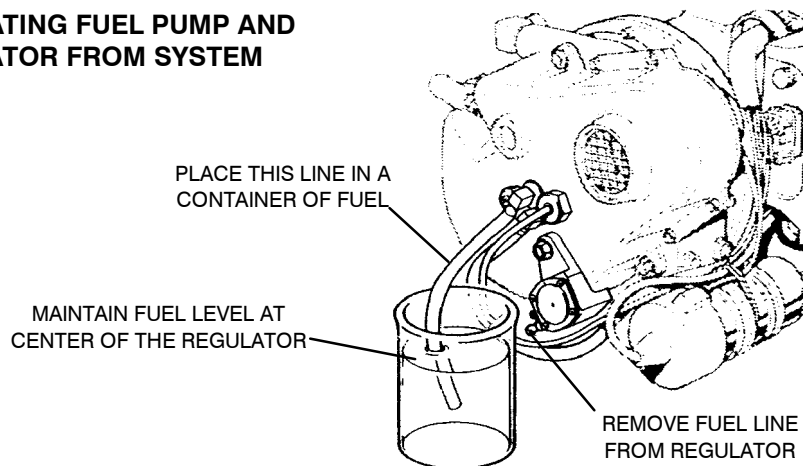

Figure 7.17-42
- a.) Split the fuel system by drawing fuel from a remote source. Disconnect the fuel line at the outlet of the fuel regulator. Put this end into a small container of fuel that is about the same level as the center of the regulator (refer to figure 7.17-42). This will eliminate the fuel pump and regulator from the system. Start the heater. If there is still a fuel problem, it must be in the Compressor or Nozzle.